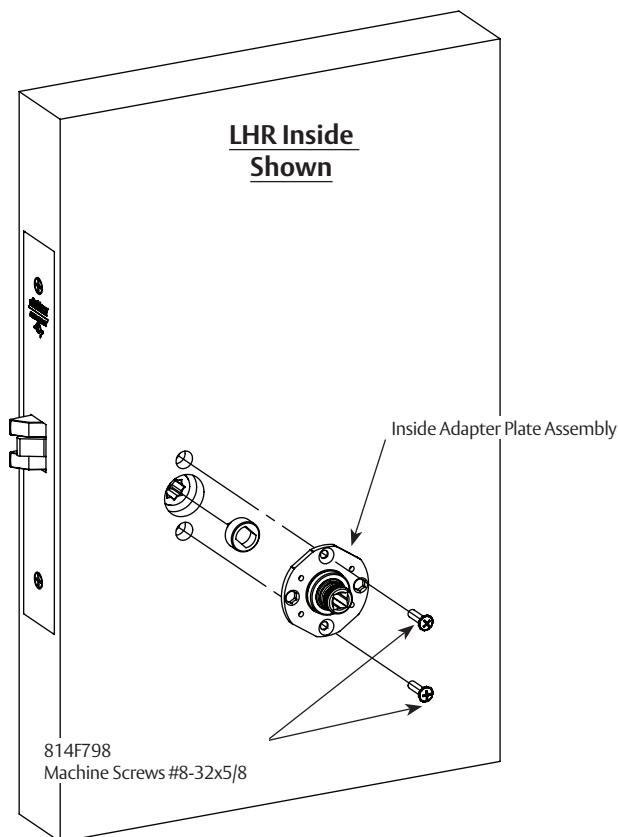

Figure 10
Install inside adapter plate assembly using two (2) machine screws. (Figure 10)